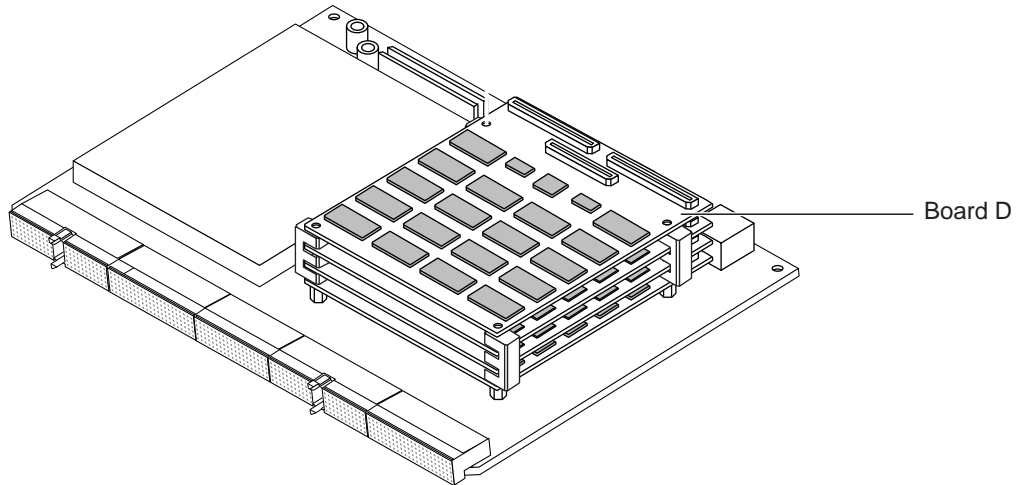

FIGURE 11 Four Stacked Memory Boards on the Netra t1 Motherboard
12. Align the connectors of Board D to the sockets of Board C, but do not press down yet to seat Board D (see FIGURE 11).